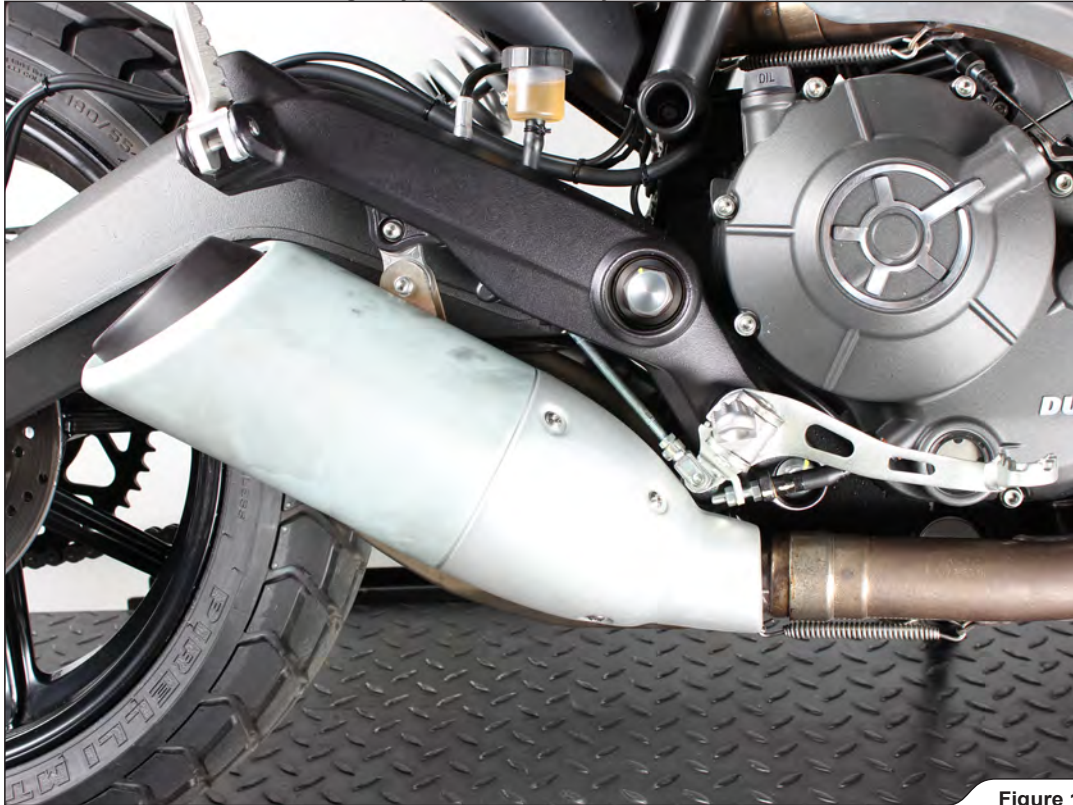

Figure 1
2. Unscrew the muffler hanging bracket bolts, unhook the marked spring and carefully remove the muffler off the motorcycle (Figure 1, 2, 3, 4).